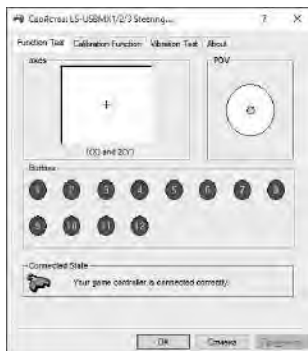

Fig. 9
- To check and configure in DirectInput mode, select Properties in the Game Devices window, and the Properties window: LS-USBMX1/2/3 Steering ... pops up. In the «Function Test» tab, you can check the execution of commands when you press the buttons and rotate the rudder, and also check the correct connection of the rudder to the PC in the «Connected State» line (Fig. 9).